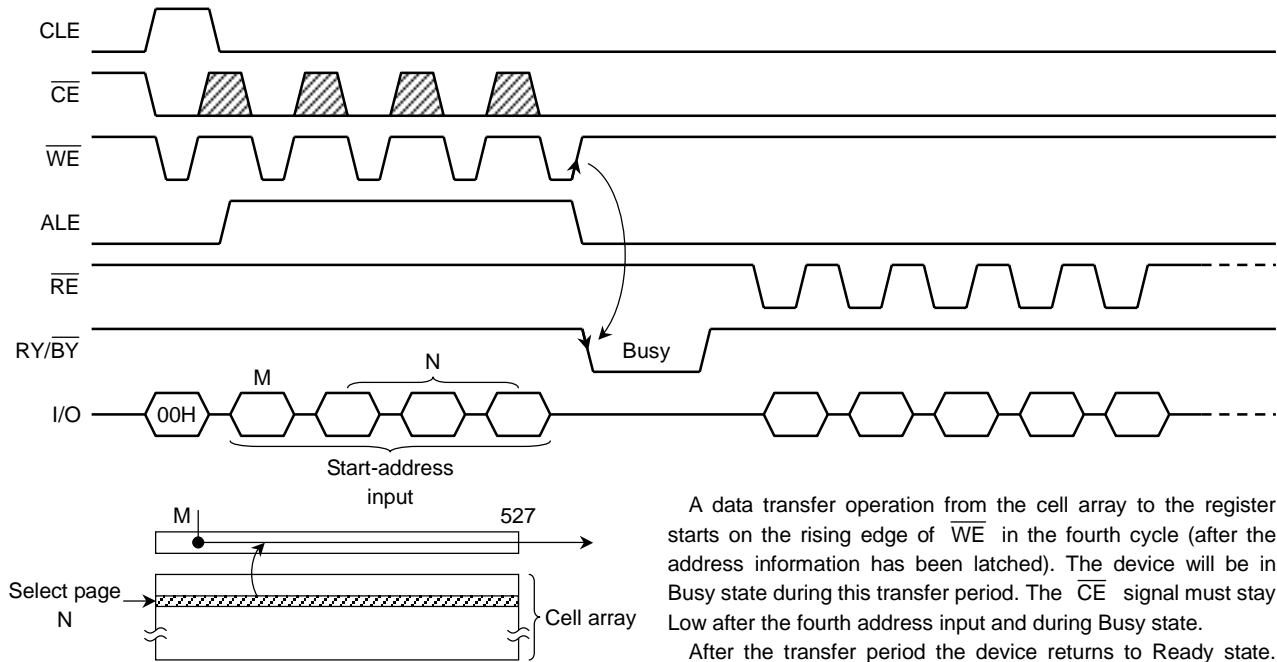

Figure 3. Read mode (1) operation
Read mode (1) is set when a “00H” command is issued to the Command register. Refer to Figure 3 below for timing details and the block diagram.